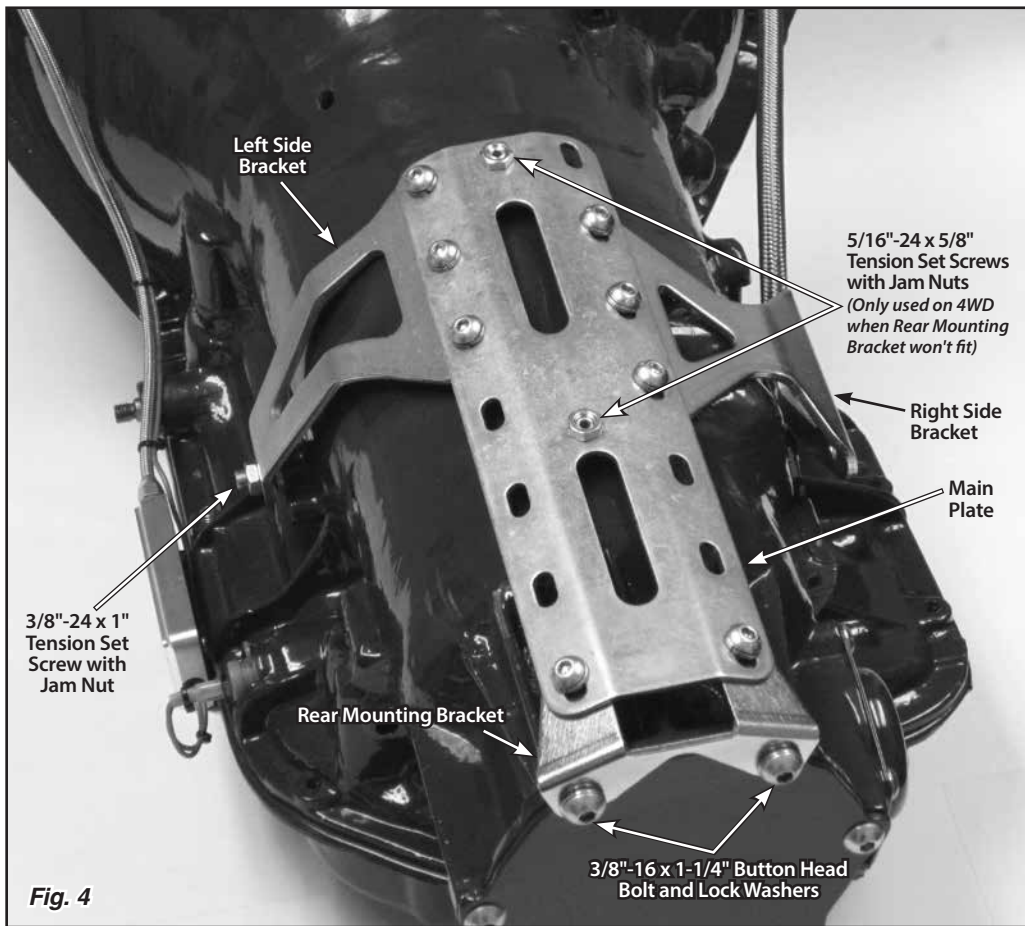

Fig. 4
**Step 5:** If you are using the rear mounting bracket, remove the top two tail housing bolts from the transmission. Install the mounting bracket assembly onto the transmission by first installing two 3/8"-16 x 1-1/4" button head bolts with lock washers through the rear mounting bracket and into the transmission at the tail housing. **Fig. 4** If you have a 4 wheel drive application that will not accept the rear mounting bracket, start the 5/16"-24 x 5/8" tension set screws into the tension set screw holes at the front and in the center of the shifter main plate. Set the mounting bracket assembly into place on top of the transmission. **Fig. 4**